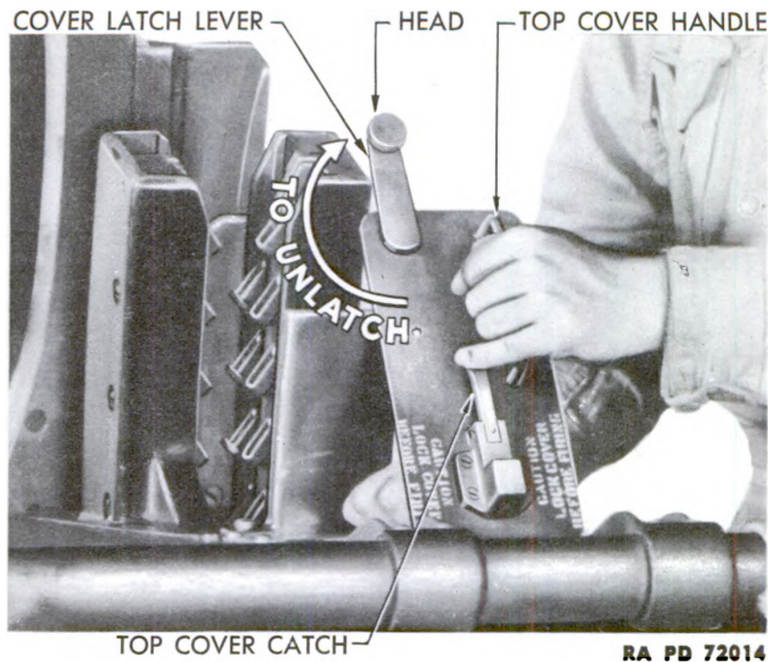

Figure 122 — Top Cover — Opened
(4) Open the top cover on the breech casing by lifting the cover latch lever head and rotating the cover latch lever (fig. 122) clockwise, depressing the top cover catch, and lifting the top cover by its handle. The cover will lock automatically in upright position. Opening the top cover will lift and release the breech ring barrel catch.